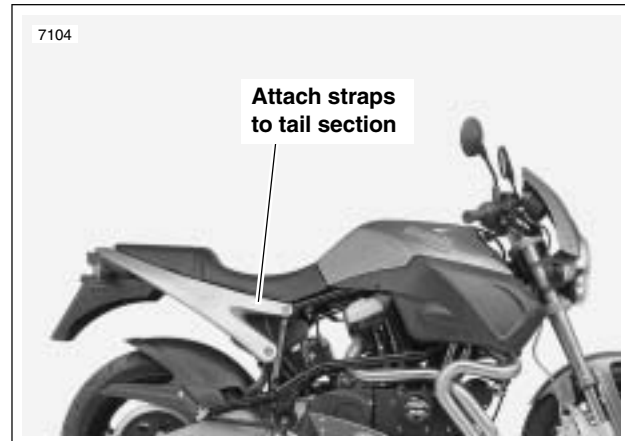

Figure 3-1. Floor Hoist
2. See Figure 3-1. Place a floor hoist behind the lift. Attach straps to tail section and hoist. Raise hoist until straps tighten.